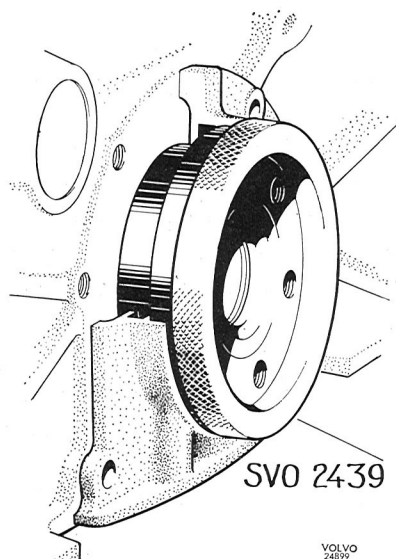

Fig. 2-45. Centering rear sealing flange
3. Center the flange with sleeve 2439, Fig. 2-45. Turn the sleeve round while tightening the bolts and adjust the position of the flange if the sleeve jams. Check that the flange comes flush against the underside of the block.